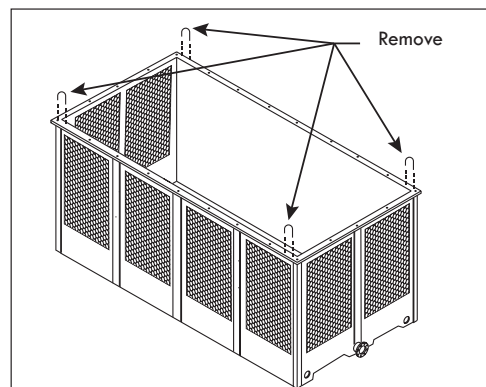

Figure A-54: Removing U-bolts from basin of a Modular Tower (RTM)
- H. Remove the U-bolts located on the flange of basin section #1 before installing the body section #1 (see Figure A-54).